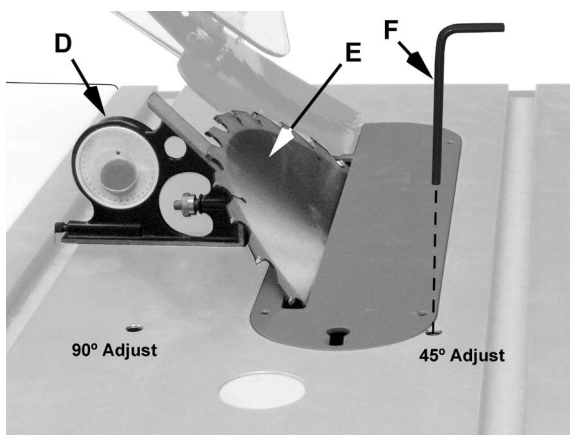

Figure 24
9. Place a square (D, Fig. 24) on the table and check to see that the blade (E, Fig. 24) is at a 45° angle to the table. Make sure that the square is not touching a blade tooth.
hex wrench (F, Fig. 24).
- As the machine receives use, the operation of the anti-kickback pawls should be checked periodically (Figure 24). If the pawls do not stop the reverse motion of a workpiece, sharpen all the points.